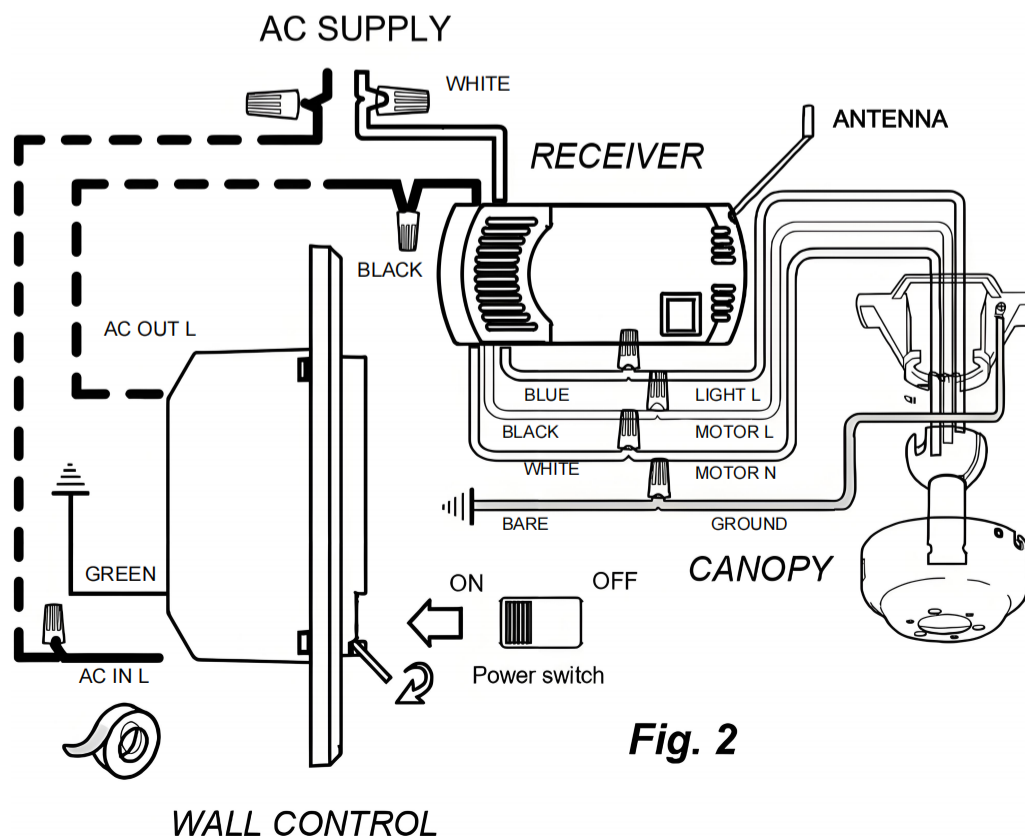

Fig. 2
- F. Using the wire connectors supplied, make wiring connections as follows: (Figure 2)
Remove wall plate, disconnect and remove the toggle switch from wall outlet box. Using the wire connectors provided make the electrical connections to the wall control as shown in Figure 2.
(Figure 2)